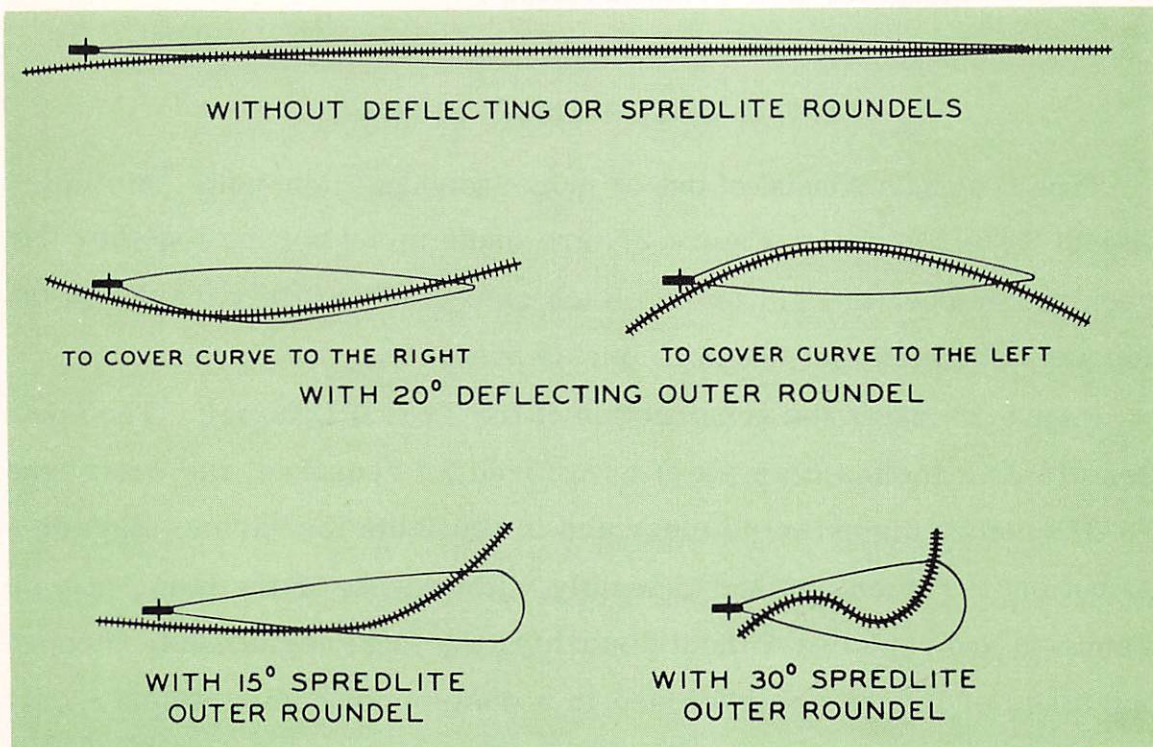

Figure 26. Various roundels are available for deflecting or spreading the light beam to fit geographic conditions.
16. The light beam can be spread; see Figure 26.
The reflector signal has no close-up arrangement, but may be supplied with any of a large variety of spread and deflecting outer roundels (see typical beam patterns in Figure 26, page 43.)